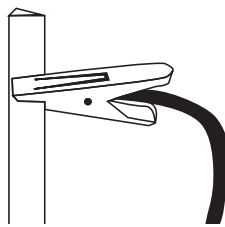

FIGURE 14
10.2 Secure the ground clamp to the workpiece. **FIGURE 14.**